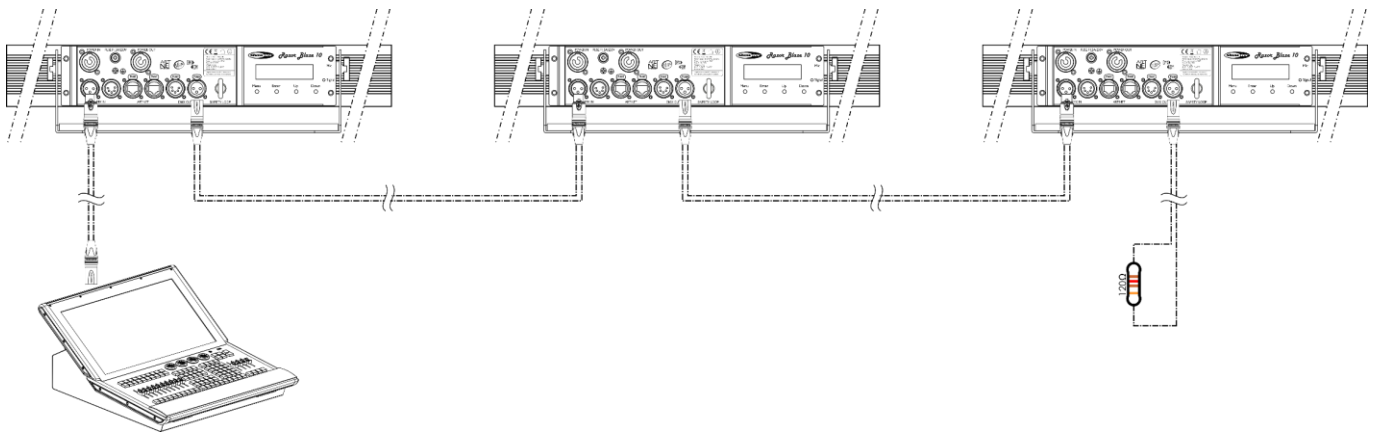

Fig. 05
- 04) Link the units as shown in Fig. 05. Connect a light controller to the first unit's DMX "in" socket, using a DMX cable. Connect the first unit's "out" socket with the second unit's "in" socket, using a DMX cable. Repeat this process to link the rest of the units.